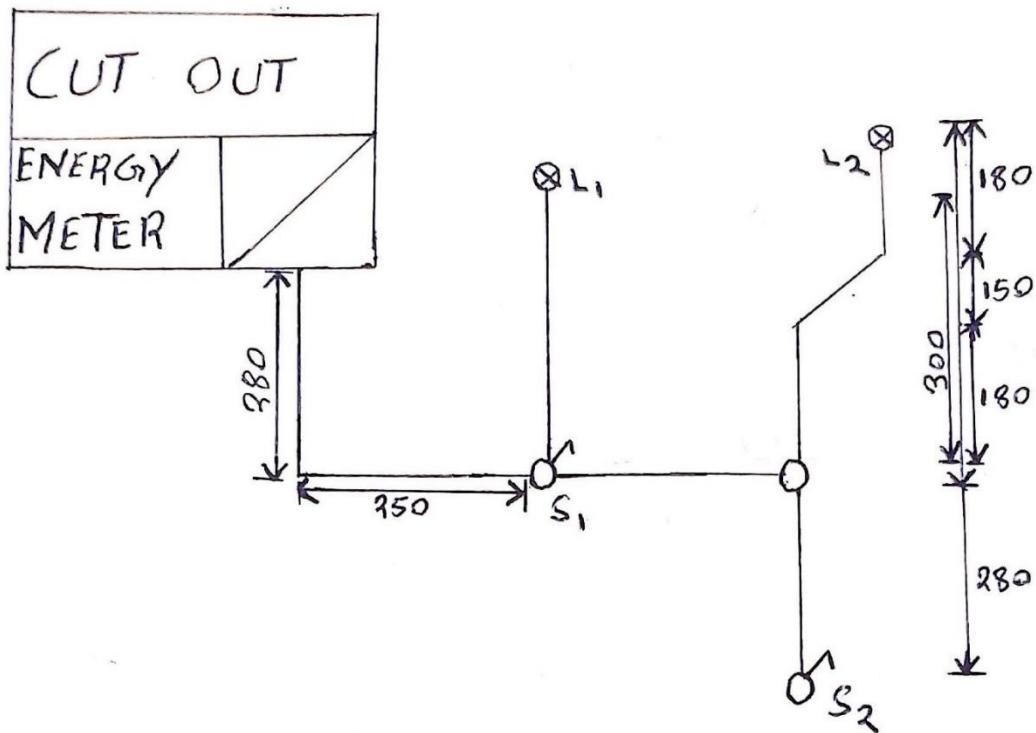

Figure 2
1. Figure 2 shows a layout diagram of final sub-circuits. Draw a wiring diagram such that:
2. Using PVC mini-trunking, install the circuit in Figure 2